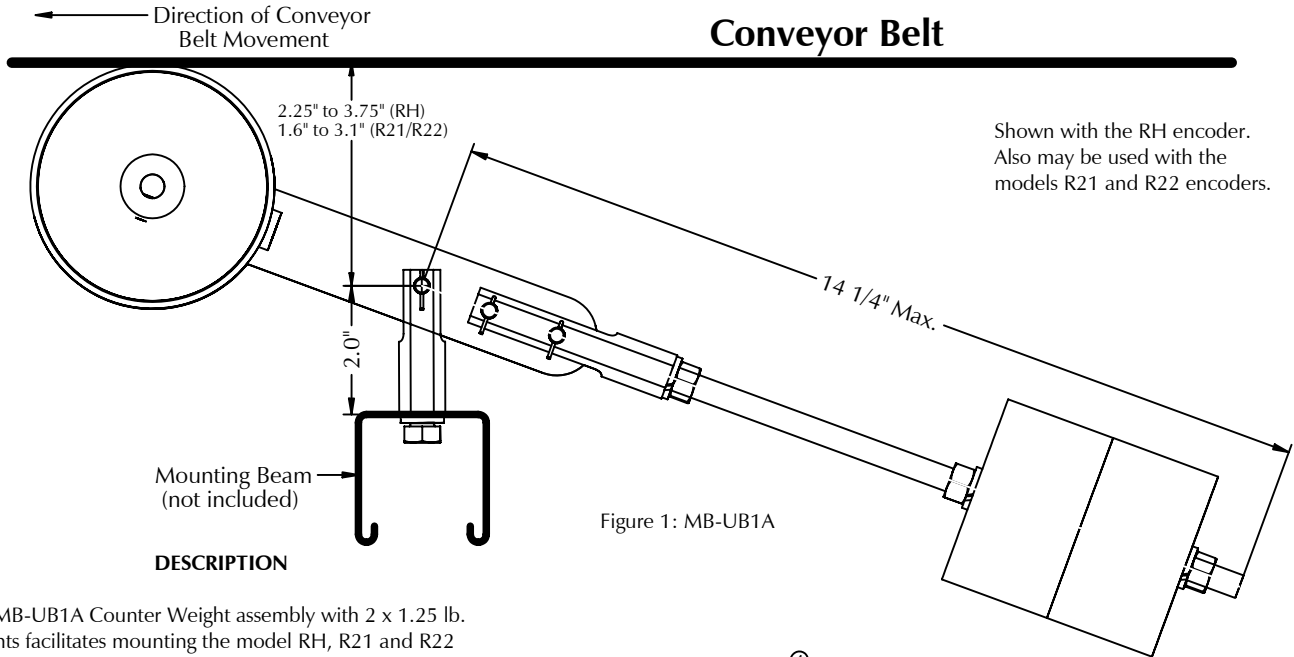

Figure 1: MB-UB1A
The MB-UB1A Counter Weight assembly with 2 x 1.25 lb. weights facilitates mounting the model RH, R21 and R22 wheeled encoders under the conveyor belt (or roller) as shown in figure 1. The Y-3 yoke provides a pivot point so the encoder wheels maintain contact and alignment with the belt, compensating for up/down and some sideways movement of the belt. Nylon washers are included to accommodate the thinner handle on the R21 and R22 encoders.
4. Bolt the Y-3 yoke to a mounting beam (not supplied) using the 3/8-16 bolt and lock washer. The Y-3 should be perpendicular to the conveyor belt with the pivot point below the conveyor belt as shown in figure 1, and positioned so the encoder is aligned with the belt. **Caution:** If the encoder is not aligned with the belt, premature wheel wear will result.